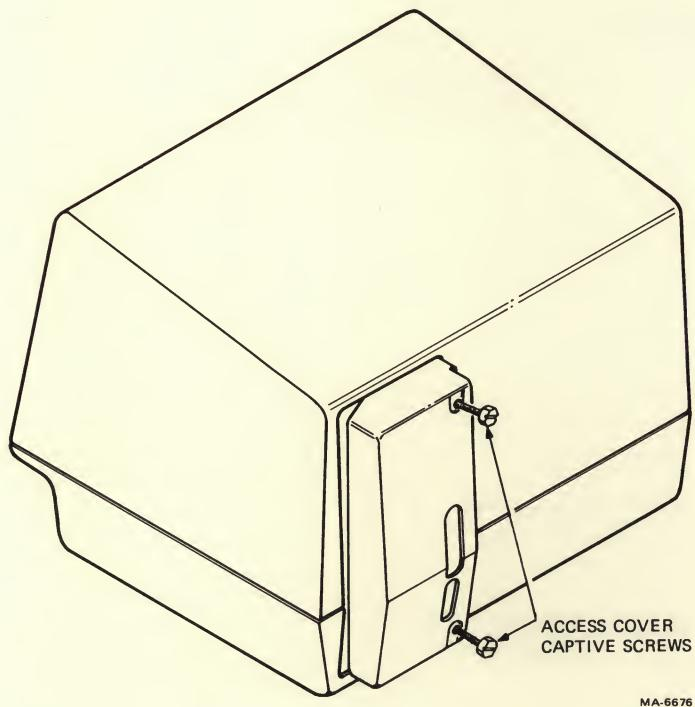

Figure 7-2 Access Cover Screw Locations
4. Loosen the two captive screws holding the access cover in place (Figure 7-2).
12. Tighten the two captive screws to hold the access cover in place (Figure 7-2).
- b. Loosen the two captive screws holding the access cover in place (Figure 7-2).